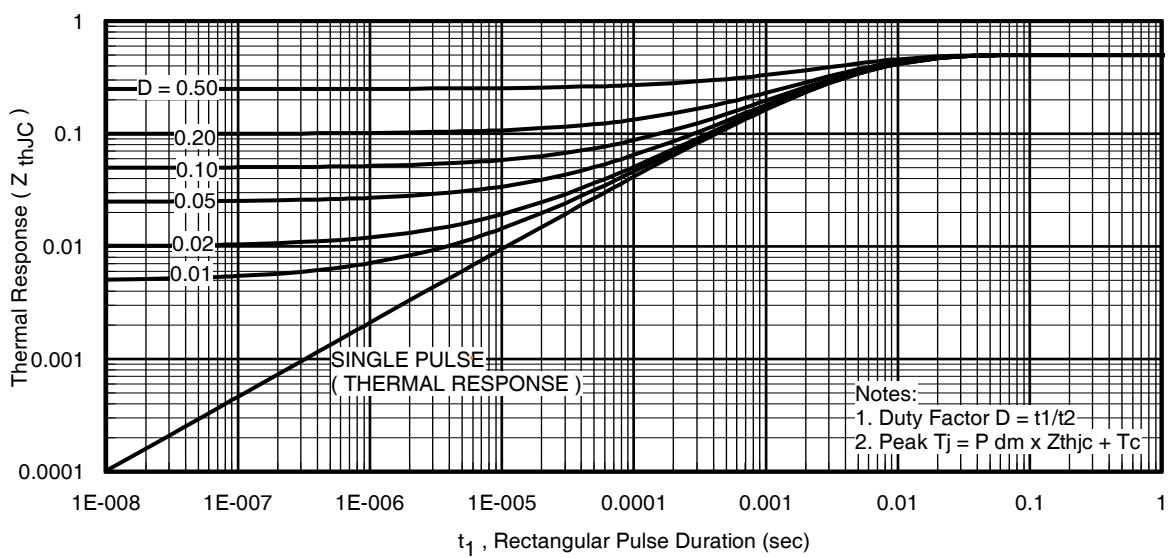
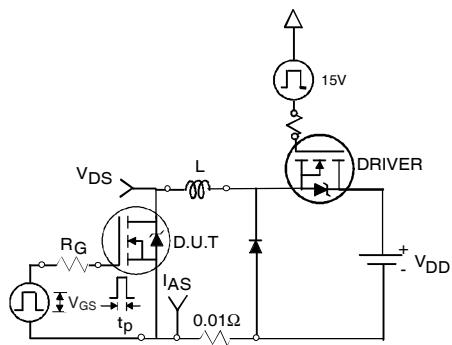

Fig 11. Maximum Effective Transient Thermal Impedance, Junction-to-Case
Fig 12a. Unclamped Inductive Test Circuit
- ① Repetitive rating; pulse width limited by max. junction temperature. (See fig. 11).
- ② Limited by $T_{J\text{max}}$, starting $T_J = 25^\circ\text{C}$, $L=0.24\text{mH}$, $R_G = 25\Omega$, $I_{AS} = 75\text{A}$, $V_{GS} = 10V$. Part not recommended for use above this value.
- ③ $I_{SD} \leq 75\text{A}$, $di/dt \leq 220\text{A}/\mu\text{s}$, $V_{DD} \leq V_{(\text{BR})\text{DSS}}$, $T_J \leq 175^\circ\text{C}$.
- ④ Pulse width $\leq 1.0\text{ms}$; duty cycle $\leq 2\%$.
- ⑤ $C_{oss \text{ eff.}}$ is a fixed capacitance that gives the same charging time as C_{oss} while V_{DS} is rising from 0 to 80% V_{DSS} .
- ⑥ Limited by $T_{J\text{max}}$, see Fig.12a, 12b, 15, 16 for typical repetitive avalanche performance.
- ⑦ This value determined from sample failure population. 100% tested to this value in production.
- ⑧ This is applied to D²Pak, when mounted on 1" square PCB (FR-4 or G-10 Material). For recommended footprint and soldering techniques refer to application note #AN-994.
- ⑨ Max $R_{\text{DS(on)}}$ for D²Pak and TO-262 (SMD) devices.
- ⑩ TO-220 device will have an R_{th} value of $0.45^\circ\text{C}/\text{W}$.
3. Equation below based on circuit and waveforms shown in Figures 12a, 12b.
- $Z_{thJC}(D, t_{av}) = \text{Transient thermal resistance, see figure 11}$